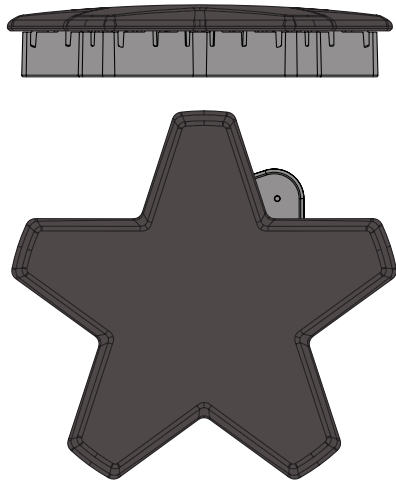

Figure 11 : Correct Burner Cap Placement
- Check each burner to make sure there is no gap between the burner cap and burner base. *See Figures 11 and 12: Correct and Incorrect Burner Cap Placement* to see examples of correct and incorrect placements of the burner cap.
- You may gently try to move the burner caps from side to side to check if the caps are properly placed on the burner bases. When properly placed, each burner cap will rest flat on top of its burner base, and completely cover the star-shape of the burner base when viewed from the top as shown in *Figure 11: Correct Burner Cap Placement*.